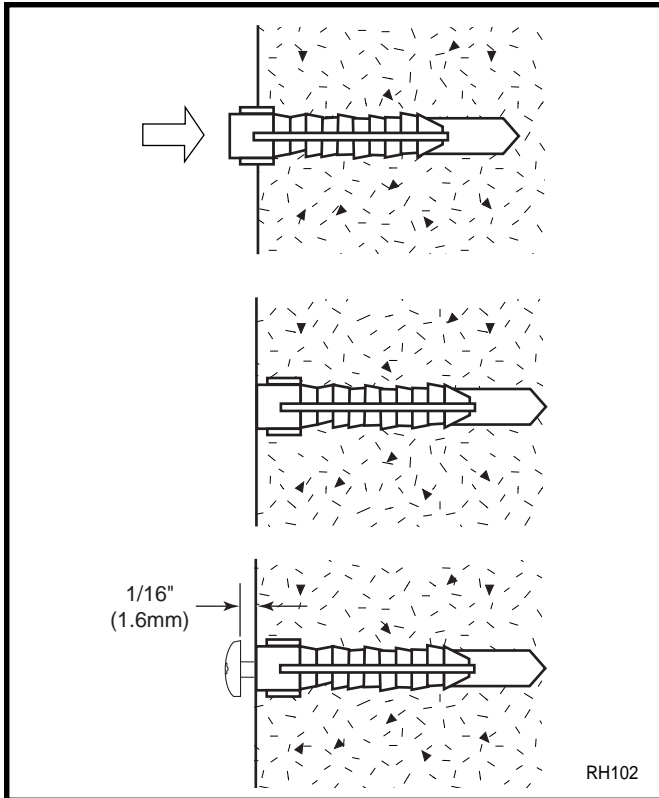

Fig. 4 Wall anchor.
3. Insert plastic anchor. Tap anchor flush to wall. (Fig. 4)
4. Insert screw into wall anchor leaving screw head out far enough from wall to attach heater. (Fig. 4)